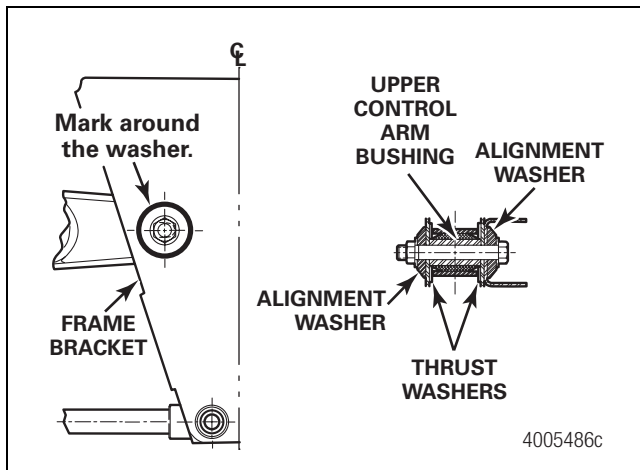

Figure 11
6. Remove the curbside pivot bolts, nuts and washers from the frame bracket. Figure 11.